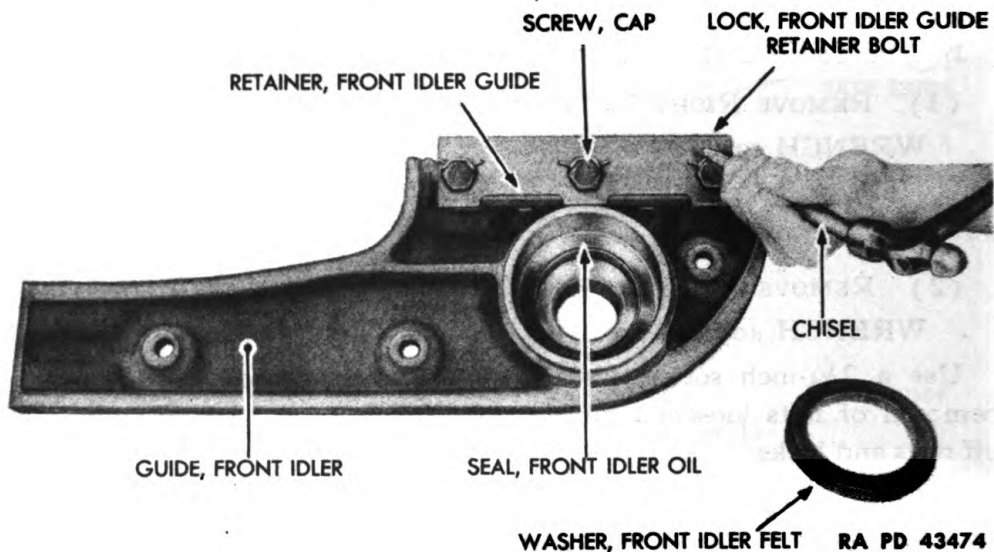

Figure 151 — Front Idler Guide Retainer Removal
(9) REMOVE FRONT IDLER GUIDE RETAINER FROM INNER AND OUTER IDLER GUIDES (fig. 151).
(10) REMOVE FRONT IDLER OIL SEAL FROM INNER AND OUTER IDLER GUIDES (fig. 151).
(1) **INSTALL FRONT IDLER OIL SEAL IN RIGHT INNER AND OUTER IDLER GUIDES (fig. 151).**
(2) **INSTALL FRONT IDLER GUIDE RETAINER TO INNER AND OUTER IDLER GUIDES (fig. 151).**